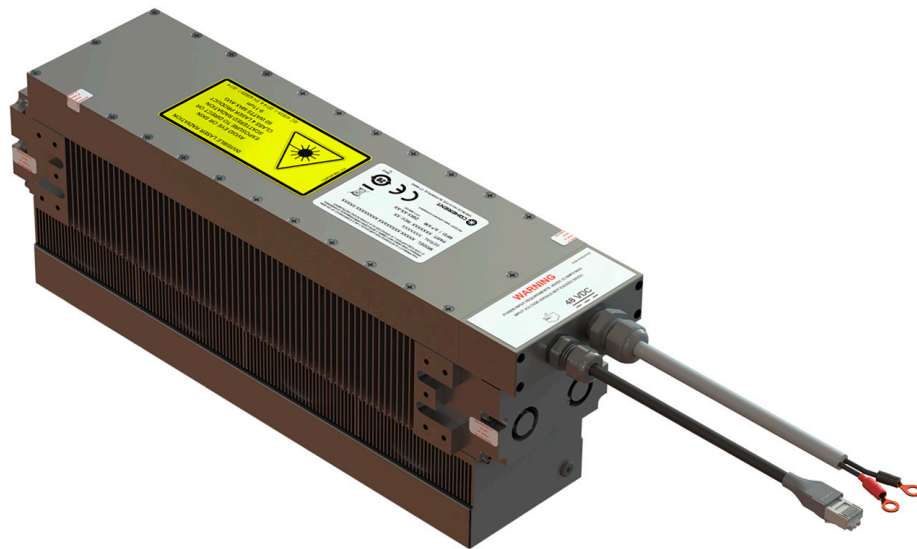
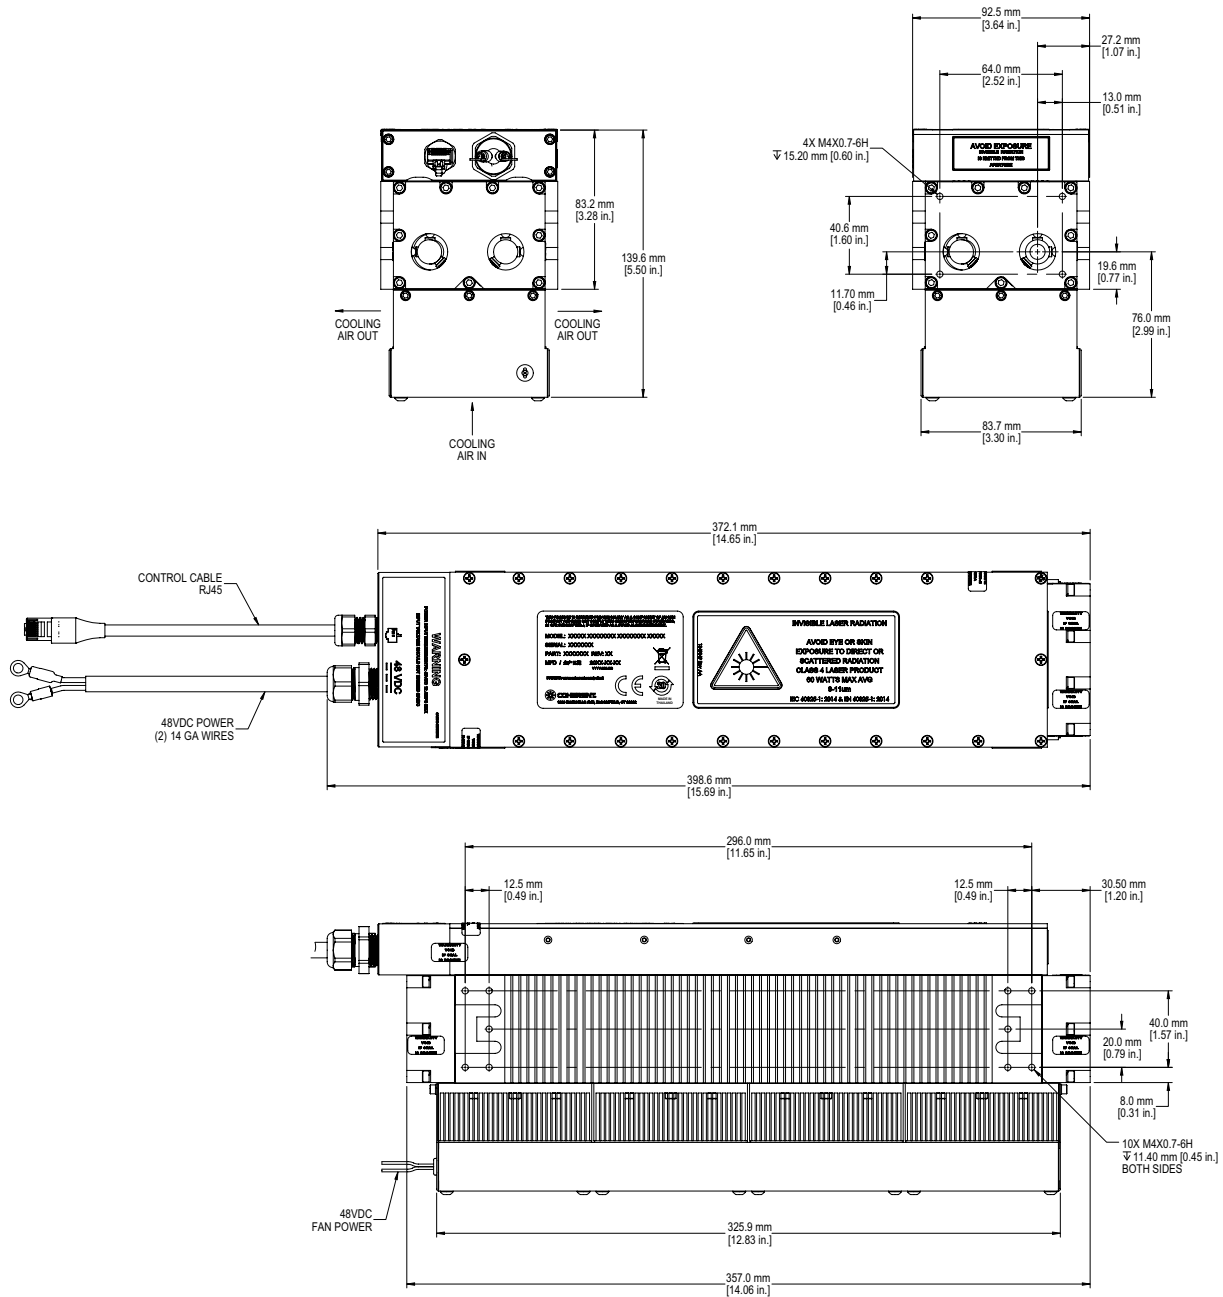

Figure 2-1. C-30+ Air-Cooled Laser
Figure 3-2. C-30+ Air-Cooled Laser Head Dimensions
Figure 2-1 illustrates the baseline configurations (i.e., without any optional hardware additions or deletions) of the C-30+ laser. Each laser system consists of a laser head assembly and an integrated radio frequency (RF) power supply. The RF power module converts 48 VDC, ≤ 11.5 A power to radio frequency power.
The laser head takes RF input power and converts some of it to laser radiation. The rest of the RF input power is exhausted as waste heat. For the C-30+ lasers, the waste heat is exhausted into the ambient air. The laser head consists of the folded optical waveguide resonator, the all-metal gas envelope structure, and RF power module. Infrared laser radiation is emitted from the optical aperture. Pictures and dimensional drawings for the C-30+ lasers are shown in Figure 2-1 on page 2-1 and Figure 3-2 on page 3-4.
The laser must be secured properly to avoid the possibility of the laser shifting unexpectedly during operation, creating a hazardous condition. The location of the output beam of the C-30+ laser head is shown in Figure 3-2. The laser output is emitted from the aperture shown in the referenced figure and propagates within a full cone angle up to 5°. The acceptance angle of the system aperture must intercept all of the output of the laser.
The dimensions for the C-30+ laser heads are shown in Figure 3-2. Mechanical mounting of the C-30+ laser head must result in no distortion or stress the laser head in any way. Otherwise, optical alignment and power stability could be adversely affected.